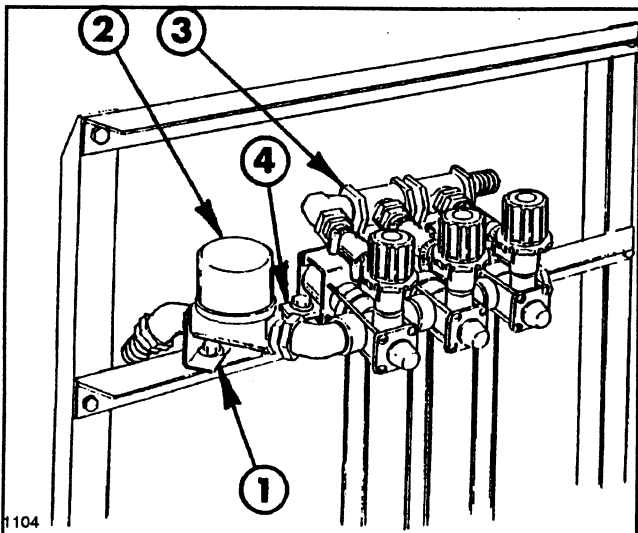

FIG. 15
1. Position the control valve bracket, apply thread sealer and install the 3/4" 45 degree elbow, and the 3/4" x 1" hose barb in the inlet port of the control valve (FIG. 15).
2. Apply sealer and install the 3/4" close nipple and 3/4" 45 degree elbow in the outlet port of the control valve (FIG. 15).
3. Apply sealer and connect control valve assembly to the solenoid assembly by screwing them together. See FIG. 15.
5. Position the complete control valve and solenoid assembly on the lower cross support with the solenoid assembly centered as shown in FIG. 15. Slide the solenoid mounting strap into position and secure with (4) 5/16" x 1" hex hd cap screws, (10) washers, and (4) nuts. Place four washers on top of the mounting strap, two at each end in between the strap and the cross support, and four under the cross support.
6. Attach the control valve bracket to the cross support with a 5/16" x 3/4" cap screw, flat washer, and nut (FIG. 15).
7. Connect the boom feeder hoses to the three hose bars in the electric solenoids and secure with hose clamps. See FIG. 15.